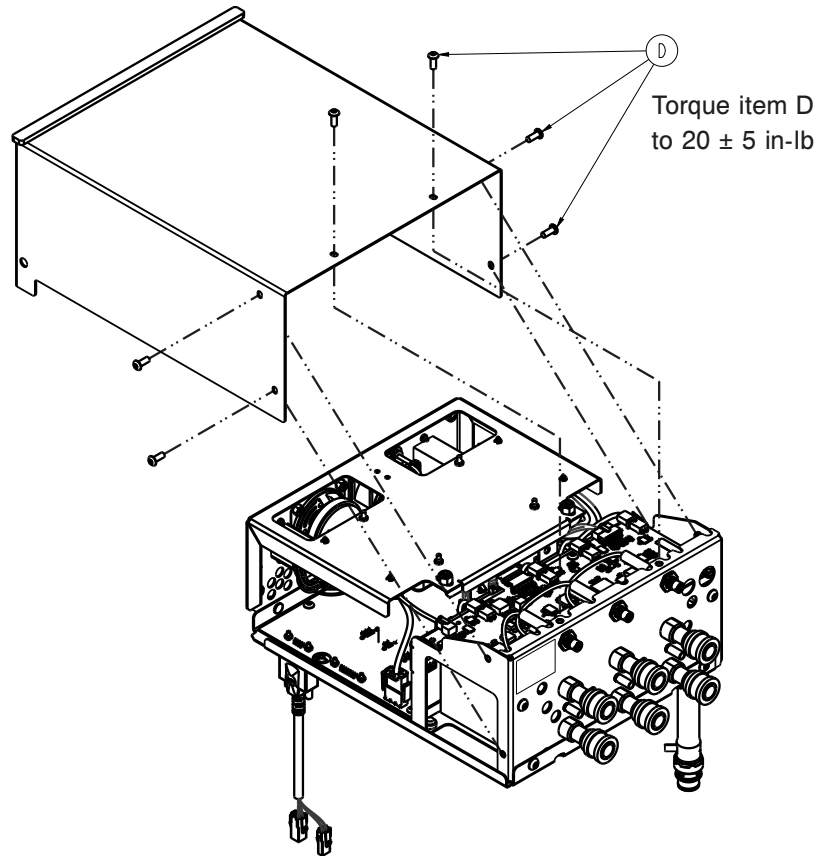

Figure 31 – Control box cover
- Using a T25 Torx driver, remove the six screws (D) that secure the control box cover to the MCB frame (Figure 31). Save the screws.